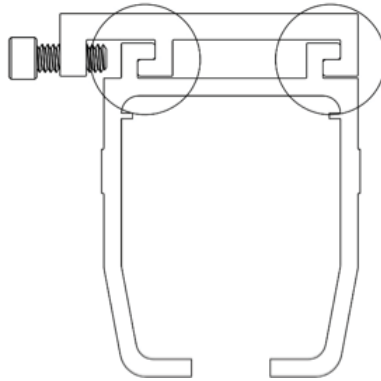

Figure 94: **Track alignment tabs, fully seated in bracket**
- Make sure the alignment tabs are fully seated, as shown in Figure 94.